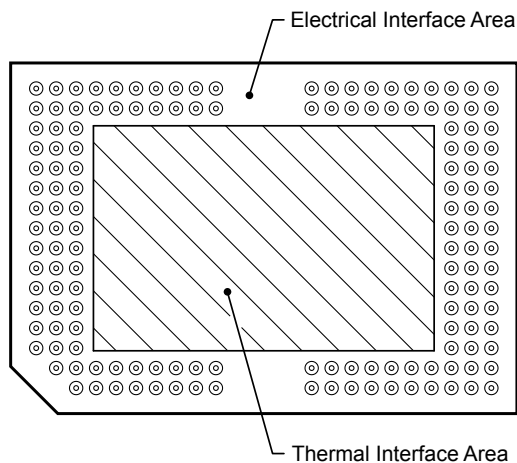

图 6-7. System Mounting Interface Loads
(1) Uniformly distributed within area shown in 图 6-7